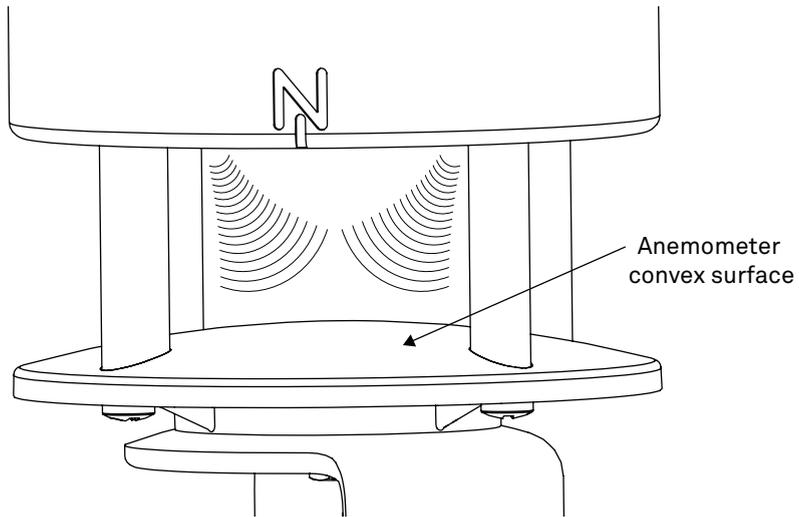

Figure 32 Convex base plate
- d. Convex base plate (Figure 32)